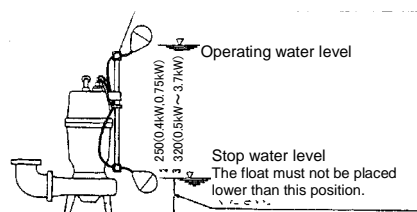

Fig. 4
- 12) For automatic pumps (DLA), install the floats as shown in Fig. 4. The pump may not start if a float switch touches the wall of the water tank or the piping. Install the float so that this will not happen.